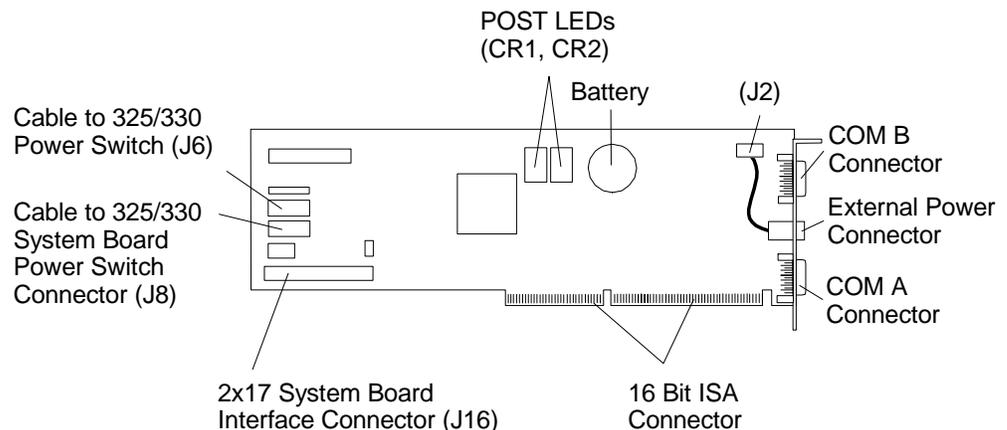

Figure 80. Advanced Systems Management Adapter
- **Advanced Systems Management Adapter:** (see Figure 80)